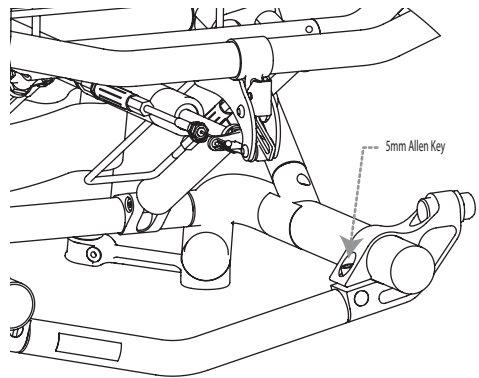

Figure 19.4 Wheel position adjustment.
- 2 Using the 5mm Allen key, loosen the M6 socket head bolts on the top of the axle housing/camber tube until it is possible to slide the assembly forwards and back. (See Figure 19.4)